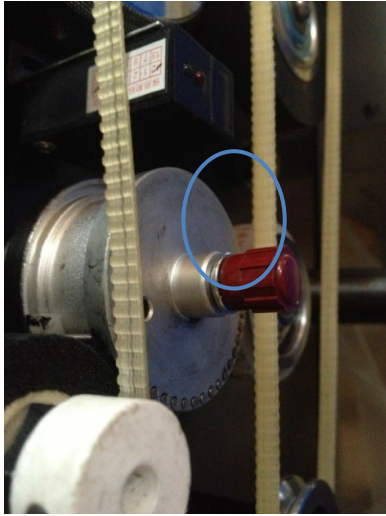
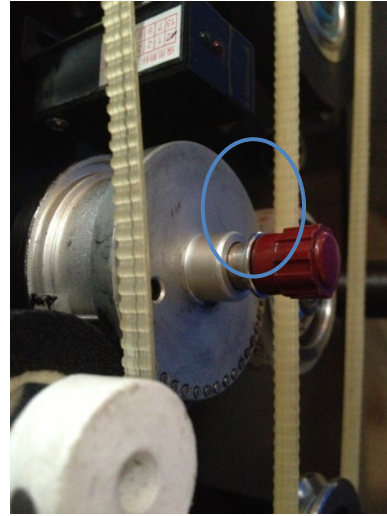

Figure 12. Locked Handle Position
Figure 13. Unlocked Handle Position
- 1. Removing Print Wheel.** To remove the printing wheel from the base, push the red handle in and turn clockwise until you feel the handle unlock. (See Figure 12 and Figure 13 for locked and unlocked positions). You may need to turn the wheel a few times until the red handle unlocks and pops out of its locked position.